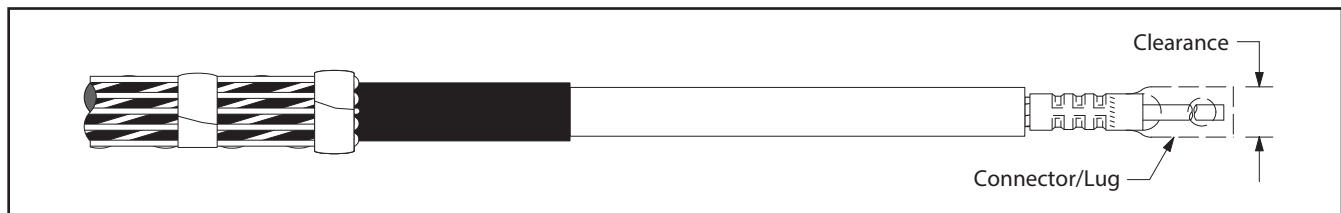

Figure 9
- 7.1 Check to insure 3M Cold Shrink QT-III Silicone Rubber Termination assembly fits over the selected lug or connector BEFORE installing the lug or connector.** If lug or connector (Figure 9) will not fit through the termination core, clean the insulation (per Step 8.0) and slide termination on cable before installing Lug or Connector. **DO NOT REMOVE CORE AT THIS TIME.**